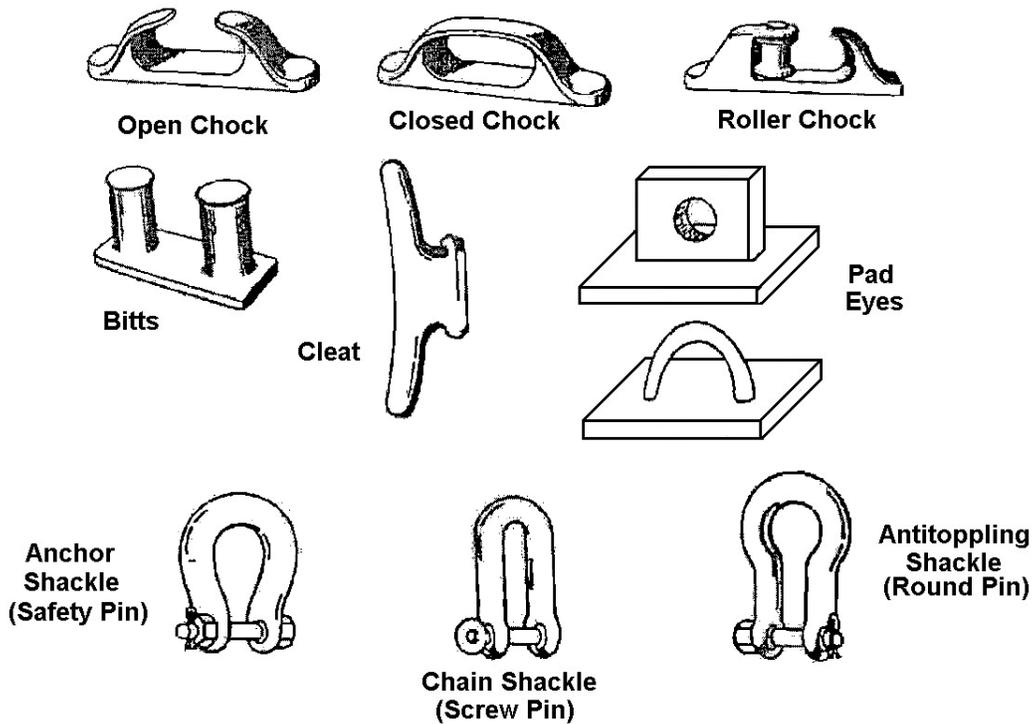

Figure 3-30
8. Inspect deck fittings and shackles (see Figure 3-30).